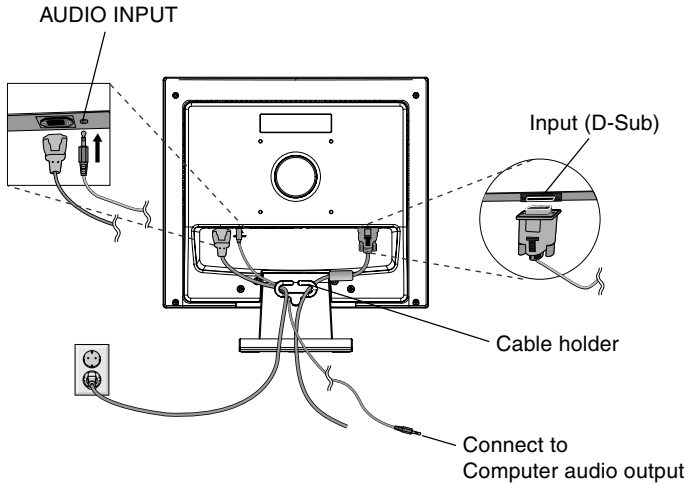
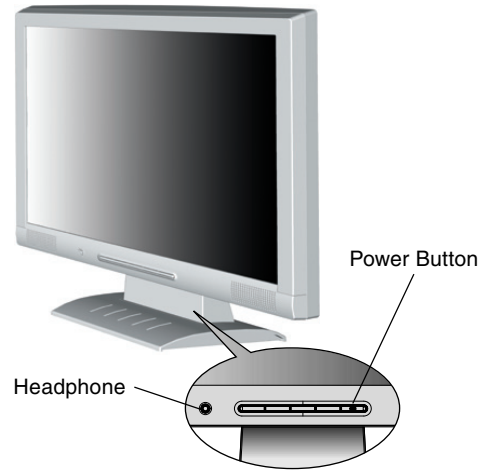

Figure B.1
Figure C.1
3. Connect the 15-pin mini D-SUB of the video signal cable and Audio Cable to the appropriate connector on the back of the monitor (**Figure B.1**). Connect the Headphone (not included) to the appropriate connector at the front of the monitor (**Figure C.1**).
4. Connect one end of the power cord to the monitor and the other end to the power outlet. Place the Video Signal Cable and power cord to the Cable holder (**Figure B.1**).
5. Turn on the monitor with the front power button and the computer (**Figure C.1**).